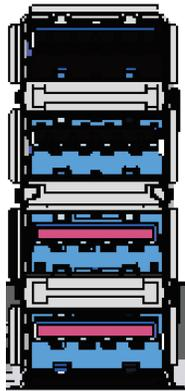

Figure 3-42: USB 3.2 Gen1 & USB 3.2 Gen 2 Type A Location
- CN Location:** See **Figure 3-42**